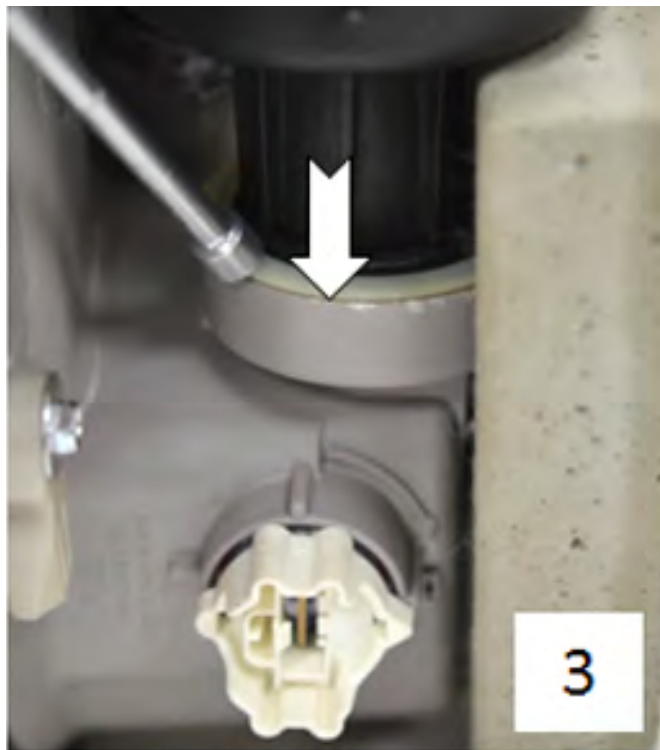

Figure 3
3. Seat new seal, see figure 3.